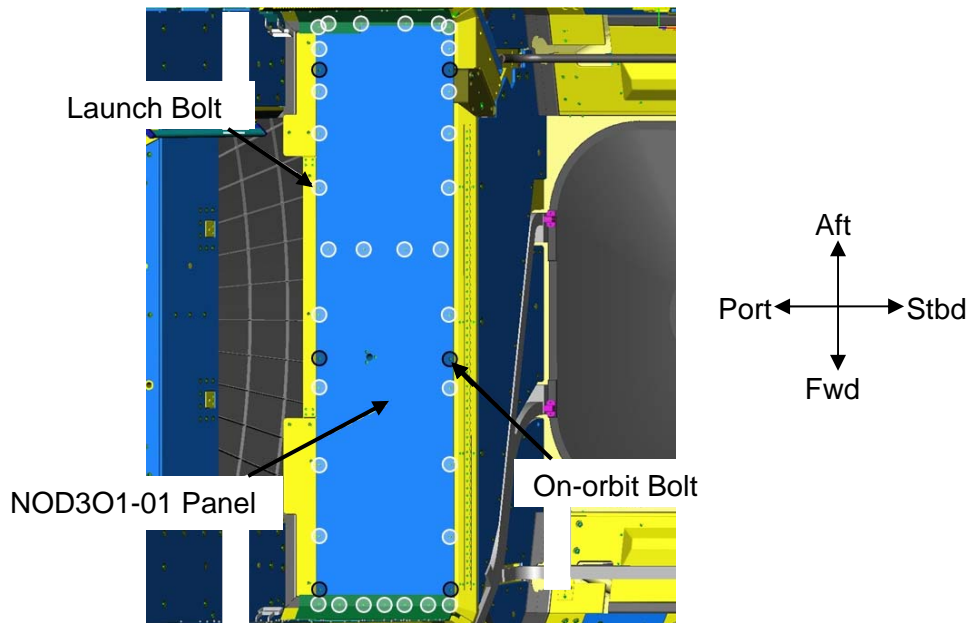

Figure 2.- Launch Bolts on NOD301-01 Closeout Panel.
- 1.1 Remove Closeout Panel NOD3O1-01 Launch Bolts (thirty-three), Fasteners (six) (Driver Handle; 5/32" Hex Head, 1/4" Drive). Refer to Figure 2.